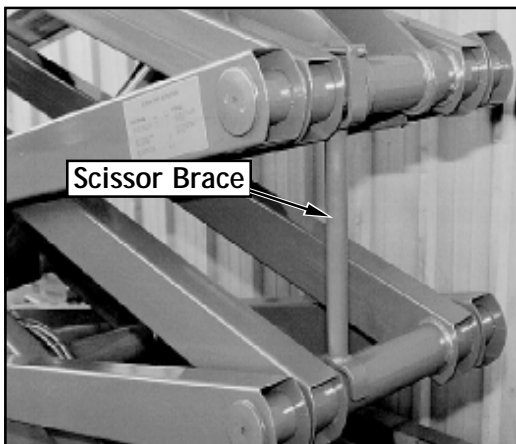

Figure 4-1: Blocking the Elevating Assembly
4.2 Blocking Elevating Assembly X20N, X20W, X26N (Figure 4-1)